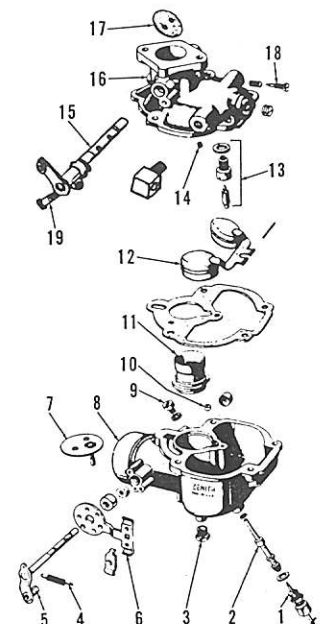

Fig. 148—Exploded view of Zenith carburetor used on some models.
134. **OVERHAUL (ZENITH).** To disassemble the removed carburetor, first clean outside with a suitable solvent. Remove the screws retaining throttle body (16—Fig. 148) to fuel bowl (8) and remove fuel bowl. Remove float shaft, float (12) and inlet valve needle. NOTE: Float shaft is a tight fit in slotted side of hinge bracket and should be removed from opposite side.